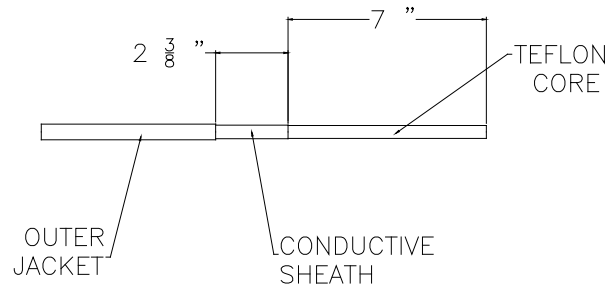

Figure 19: Fluid Hose Cutback Diagram
3. To re-install, pull the cable through the robot arm. Install in the low voltage cable hole. Align the timing marks as shown in Figure 19.
2. Remove (6) screws that retain the tubing bundle to the robot wrist.
11. Cut away the jacket and conductive sheath according to Figure 19.